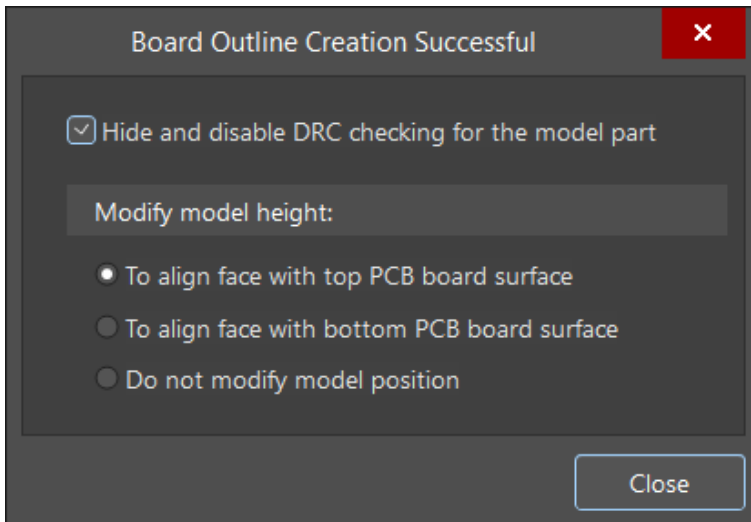
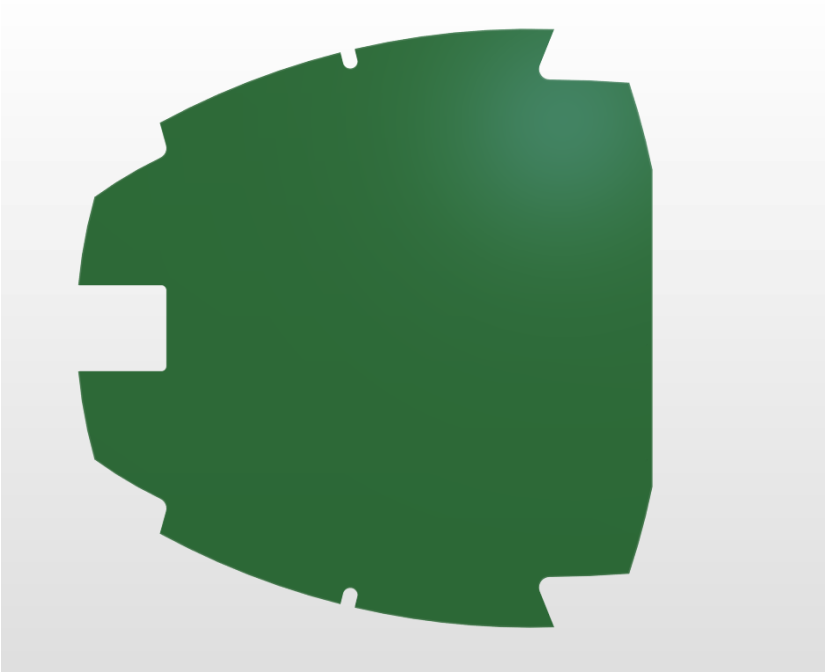

Figure 6. Board outline successful dialog
Figure 7. Resulting Board Shape in 3D Mode
23. Accept the default values for the *Board Outline Creation Successful* dialog by clicking on the **Close** button as shown in Figure 6. The board shape is now defined as shown in Figure 7.